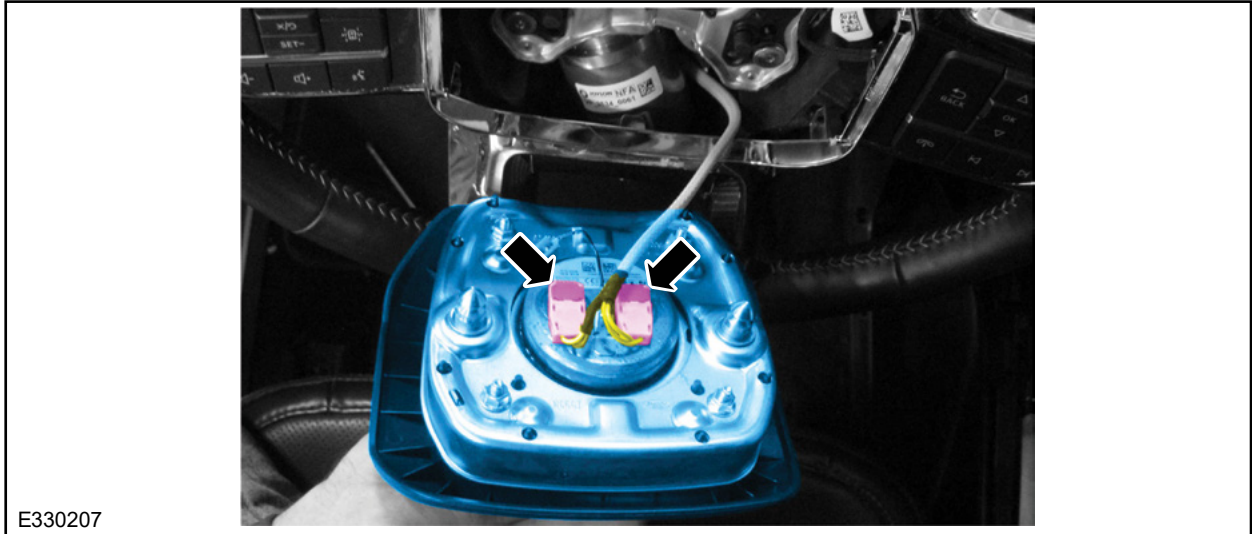

FIGURE 7
8. Disconnect the electrical connectors and remove the driver airbag. See Figure 7.